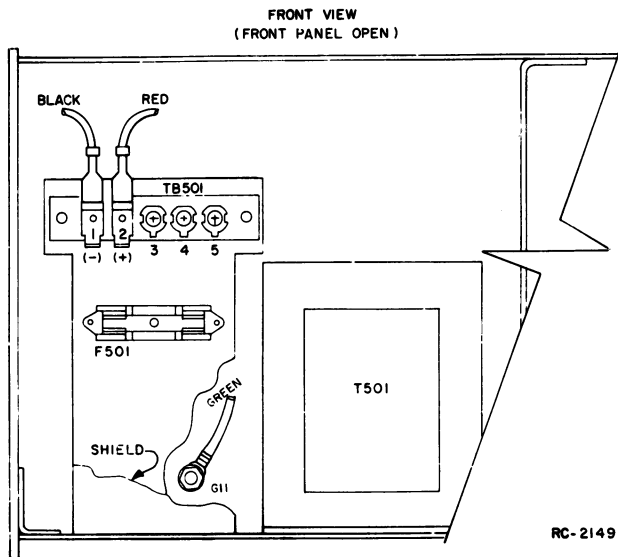

Figure 1 - Power & Ground Connections
5. Make the power and ground connections as shown in the chart and in Figure 1
3. Make the power and ground connections from the multi-charger to the slave unit as shown in Figure 1.